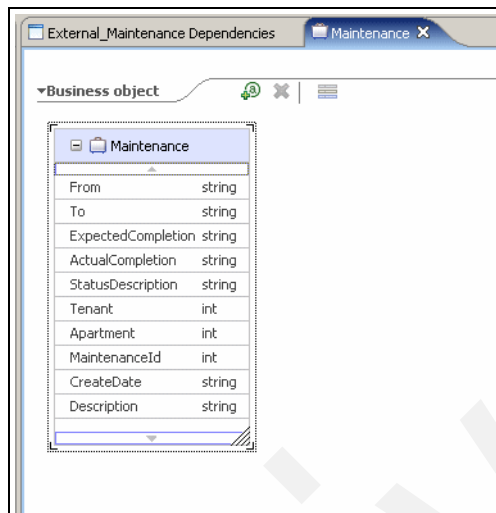

Figure 2-13 Maintenance data type
5. This will create the *maintenance* data type in the data types category of the External\_Maintenance module. This data type is shown in Figure 2-13.